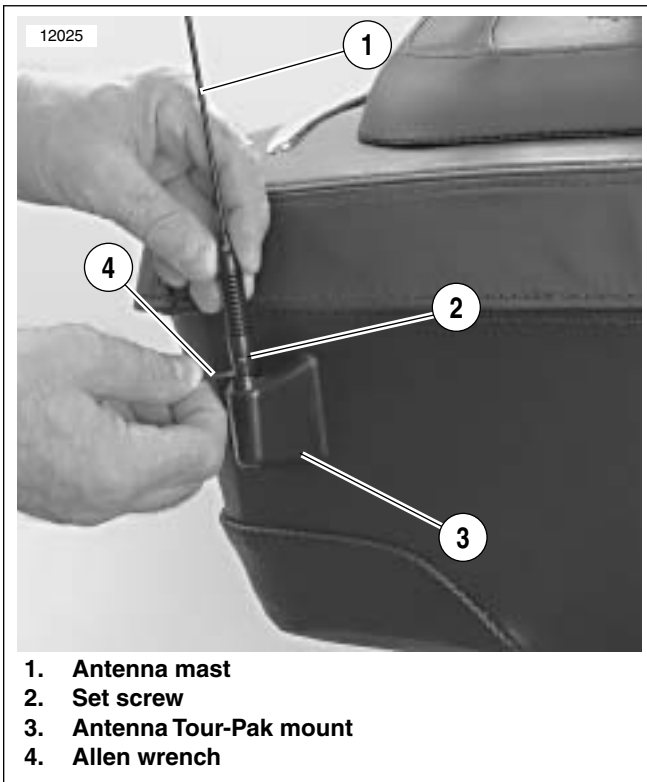

Figure 2-52. Removing/Installing AM/FM/WB Antenna
1. See Figure 2-52. Loosen set screw (2) with allen wrench (4).
2. Unscrew antenna mast (1) from antenna Tour-Pak mount (3).
1. See Figure 2-52. Screw antenna mast (1) into antenna mount (3) on Tour-Pak.
2. Tighten set screw (2) with allen wrench (4).